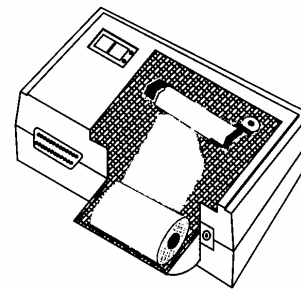
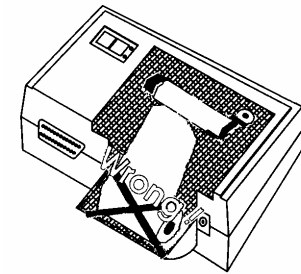

Figure 2-5
Figure 2-6
- for paper roll placed inside the case: Insert the paper end deep-down into paper in slot on rear of printer mechanism like figure 2-5. Figure 2-6 is not correct.